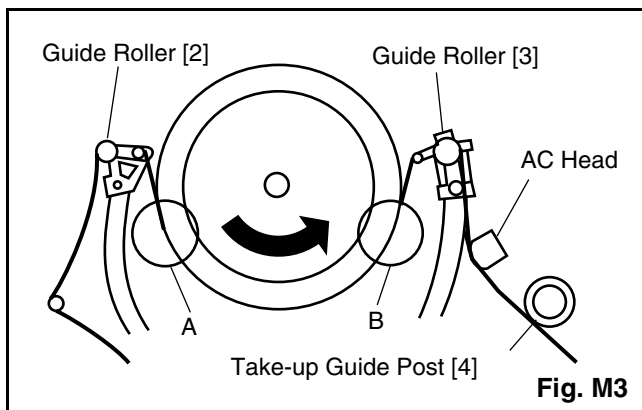

Fig. M3
1. Playback a blank cassette tape and check to see that the tape runs without creasing at Guide Rollers [2] and [3], and at points A and B on the lead surface. (Refer to Fig M3 and M4.)
2. If creasing is apparent, align the height of the guide rollers by turning the top of Guide Rollers [2] and [3] with a Guide Roller Adj. Screwdriver. (Refer to Fig. M3 and M5.)
3. Check to see that the tape runs without creasing at Take-up Guide Post [4] or without snaking between Guide Roller [3] and AC Head. (Fig. M3 and M5)
- Playback the Gray Scale on the Alignment Tape (FL6NS8). Set the Tracking Control Circuit to the center position by pressing CH UP button and then "PLAY" button on the unit. Adjust the height of Guide Rollers [2] and [3] (Fig. M3, Page 2-3-3) watching the oscilloscope display so that the envelope becomes as flat as possible. To do this adjustment, turn the top of the Guide Roller with the Guide Roller Adj. Screwdriver.
- If the envelope is as shown in Fig. M7, adjust the height of Guide Roller [2] (Refer to Fig. M3) so that the waveform looks like the one shown in Fig. M9.
- If the envelope is as shown in Fig. M8, adjust the height of Guide Roller [3] (Refer to Fig. M3) so that the waveform looks like the one shown in Fig. M9.
- When Guide Rollers [2] and [3] (Refer to Fig.M3) are aligned properly, there is no envelope drop either at the beginning or end of track as shown in Fig. M9.
Note: Upon completion of the adjustment of Guide Rollers [2] and [3] (Refer to Fig. M3), check the X Value by pushing the CH UP or DOWN buttons alternately, to check the symmetry of the envelope. Check the number of pushes to ensure center position. The number of pushes CH UP button to achieve 1/2 level of envelope should match the number of pushes CH DOWN button from center. If required, redo the "X Value Alignment."